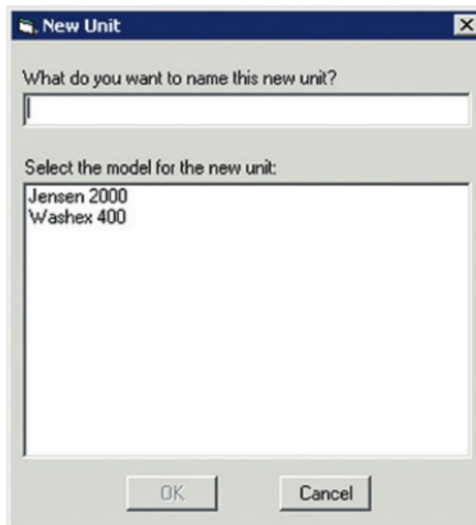

Figure 30. New Unit dialog.
3. Give the new unit a name (see Figure 30).